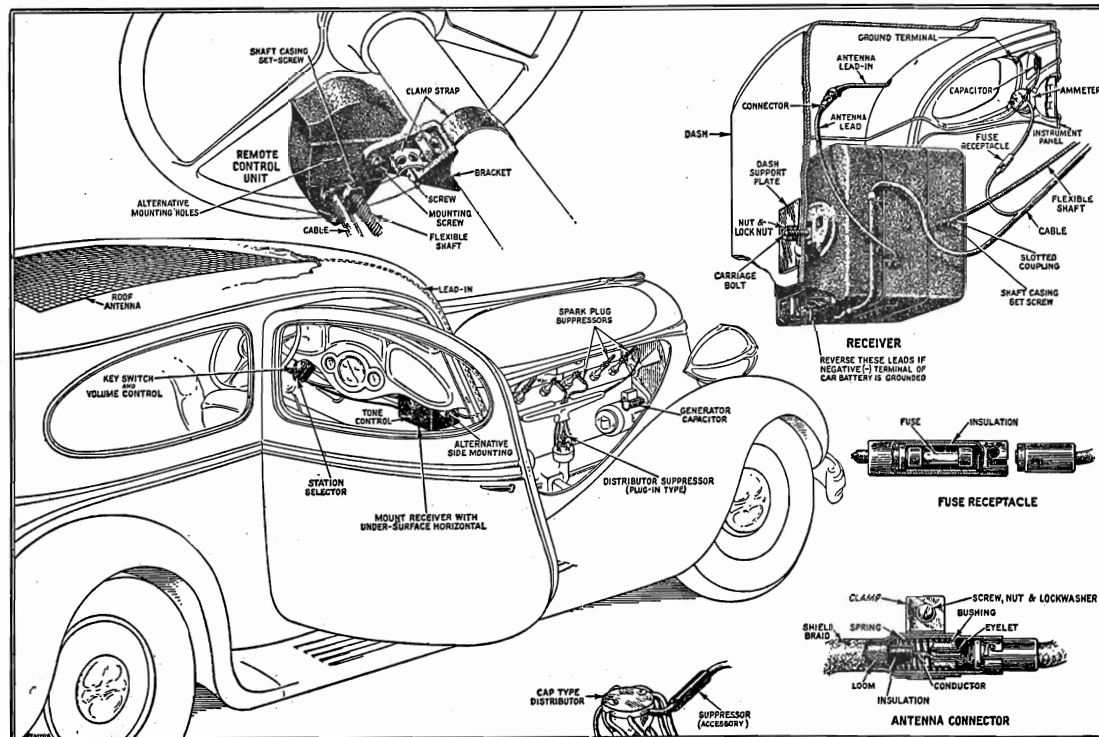

Figure 1
3. **CHECK POLARITY OF AUTOMOBILE STORAGE BATTERY SUPPLY.** If the negative (—) side is grounded to car frame, make changes to chassis connections shown in Figure 1. *Do not disturb these connections if positive (+) side is grounded.* (See details under "Mounting of Units"—page 5.) Replace case cover.
4. Determine most satisfactory mounting position (see details under "Location of Units"—page 4); spot mounting-bolt location and drill $\frac{1}{8}$ " diameter hole. Insert bolt through dash and assemble support plate and nuts on engine side. Hang receiver over bolt head and tighten nuts. (See Figure 1 and details under "Mounting of Units"—page 5.)
5. Attach remote control unit to steering column by means of mounting bracket and strap. (See Figure 1 and details under "Mounting of Units"—page 5.)
6. Assemble flexible shaft to receiver and remote control unit. (See Figure 1 and details under "Mounting of Units"—page 6.)
8. Connect terminal at end of black lead from cable to binding-post of automobile ammeter (see Figure 1 and details under "Connections"—page 7). The ignition by-pass capacitor (equipped with two leads) should be installed at this time. (See Figure 1 and paragraph 4 under "Suppression of Ignition Interference"—page 7.)
9. Install spark-plug and distributor suppressors; also generator by-pass capacitor (see Figure 1 and paragraphs 1, 2 and 3 under "Suppression of Ignition Interference"—page 7).